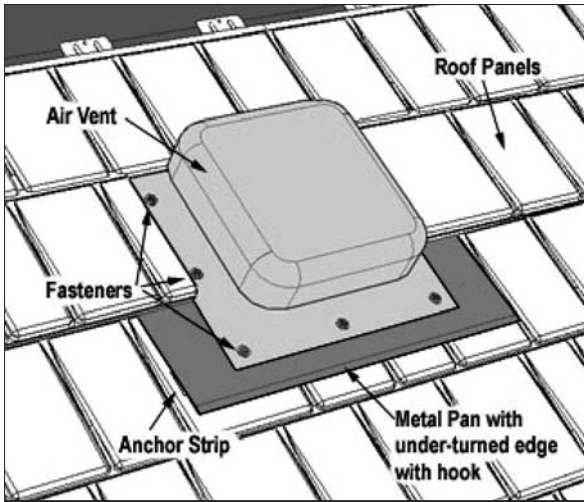

FIGURE 1-45 Completed Roof Vent Construction
7. A continuous sealing gasket or butyl sealant tape should be applied under the base of the pipe boot. Fasten through the air vent using high Domed gasketed fasteners. *See Figure 1-45.*